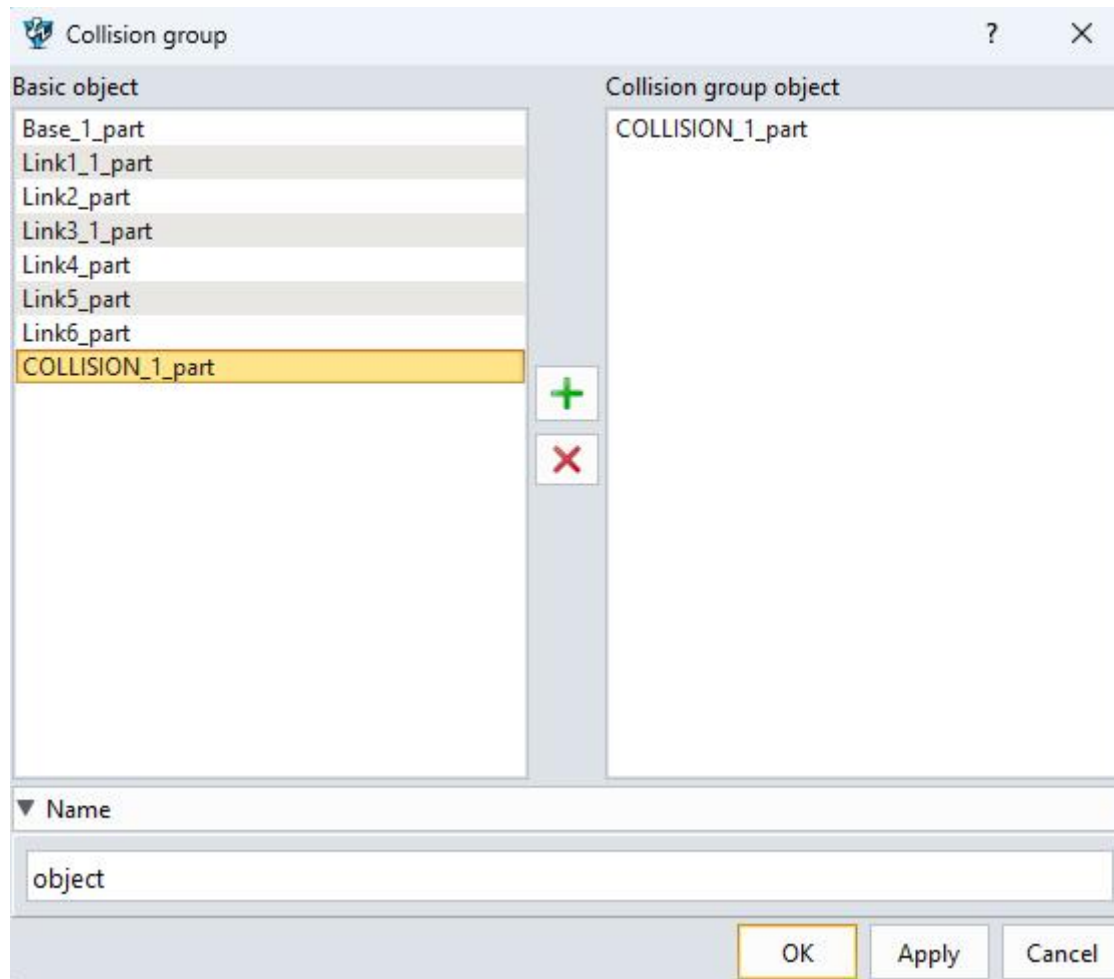

Figure 11-13: Object collision group
- Name this group "object". (Figure 11-13)